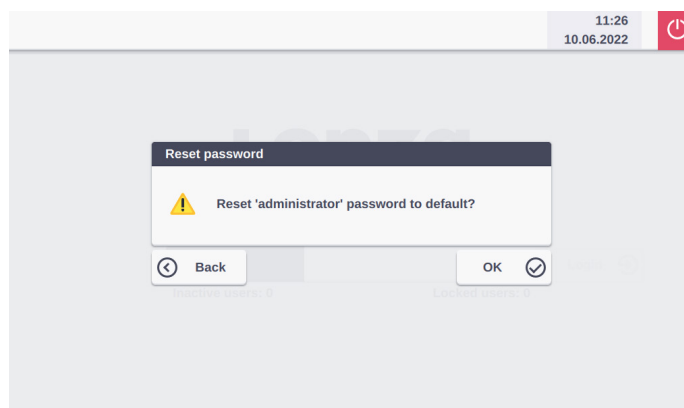

Figure 13: Reset of administrator account, (V05.10)
- The application recognizes the update files and the serial number and prompts Reset “administrator” password to default?” (Figure 13)